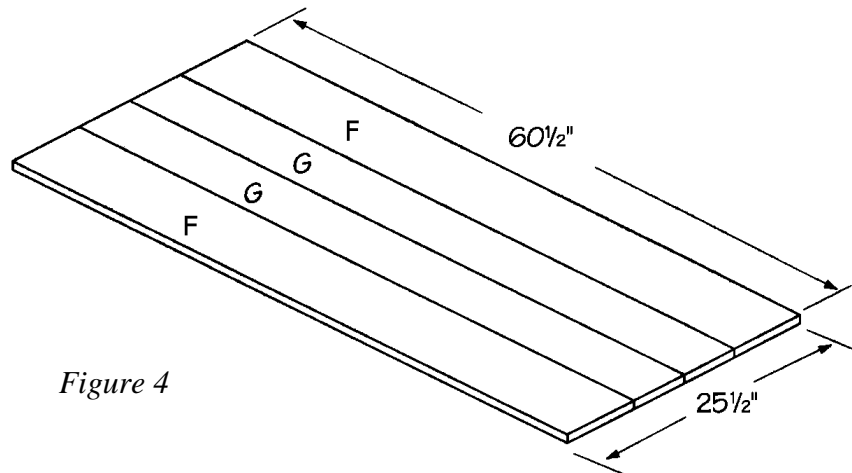

Figure 4
1. Cut two wide tops (F) from 1 x 8 pine, each measuring 60-1/2" long.
2. Cut two narrow tops (G) from 1 x 6 pine, each measuring 60-1/2" long.
3. Place the four tops (F and G) parallel to each other, with the wide tops (F) on the outside and the narrow tops (G) on the inside to form a rectangle measuring 25-1/2" x 60-1/2" as shown in *Figure 4*. Apply glue to the meeting surfaces and clamp the tops together, making certain that all four tops are level along their entire length. Allow the boards to set up overnight.